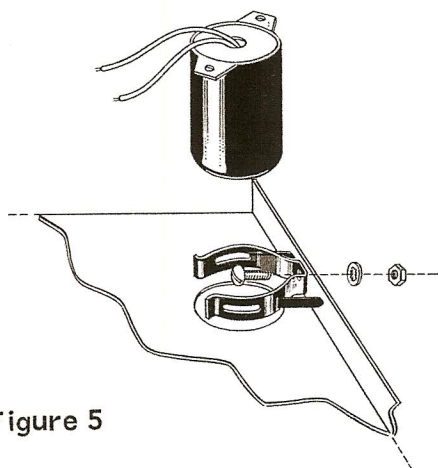

Figure 5
- ( ) Secure a spring clip to the right hand chassis flange at location N, with a small 6-32 x 3/16 screw. The head of the screw goes inside the chassis, through the holes provided in the spring clip, the mounting hole in the flange, a #6 lockwasher and nut. Observe Figure 5. Do not use a 6-32 x 3/8" screw, for it will protrude too far and make it difficult to install the instrument in its cabinet when completed.